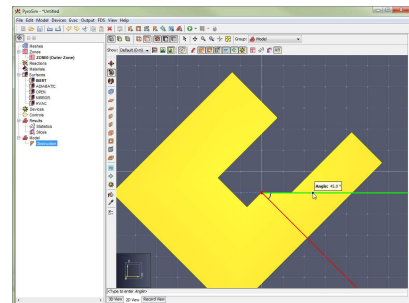

Figure 95. Define angle vector
5. Single-click a third point to define the **angle vector** from the first point to the third point (Figure 95).